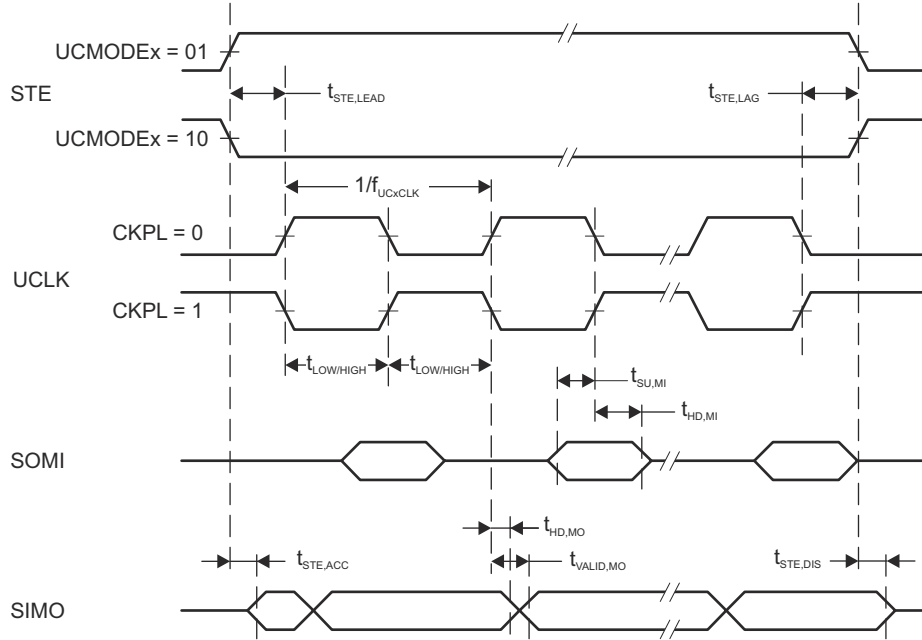
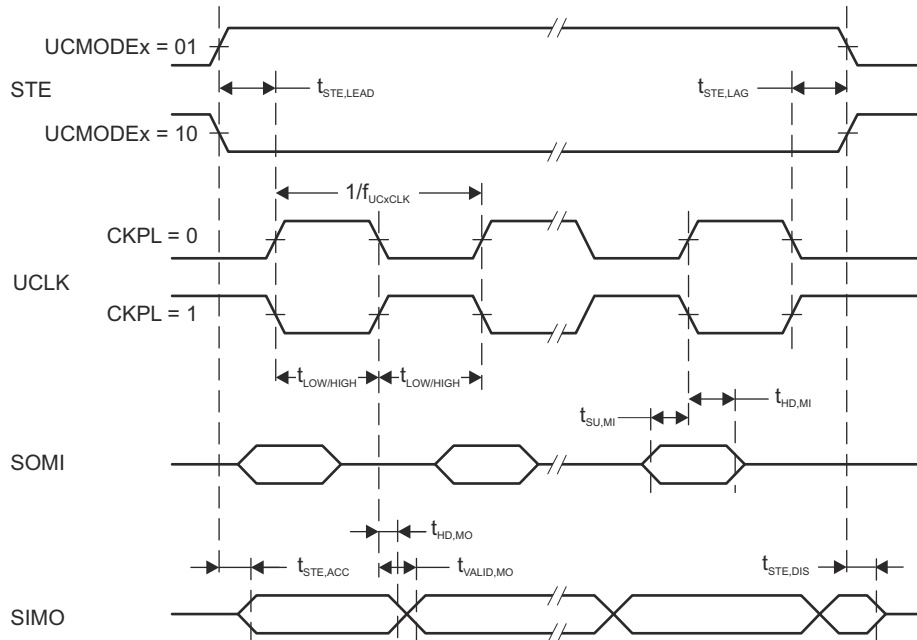

图 8-13. SPI Master Mode, CKPH = 0
图 8-14. SPI Master Mode, CKPH = 1
(2) Specifies the time to drive the next valid data to the SIMO output after the output changing UCLK clock edge. See the timing diagrams in Fig 8-13 and Fig 8-14.
(3) Specifies how long data on the SIMO output is valid after the output changing UCLK clock edge. Negative values indicate that the data on the SIMO output can become invalid before the output changing clock edge observed on UCLK. Refer to the timing diagrams in Fig 8-13 and Fig 8-14.